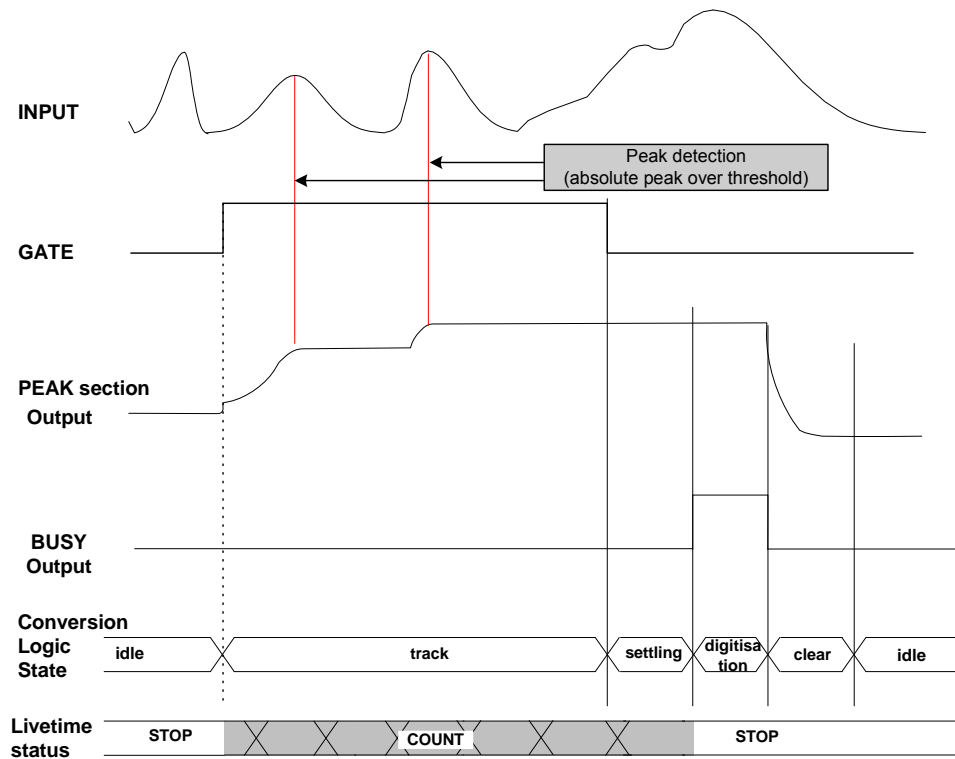

Fig. 2.9: Livetime status (Control Register <0> = 1 and External Gate mode)
- in External Gate mode (see Fig. 2.9):